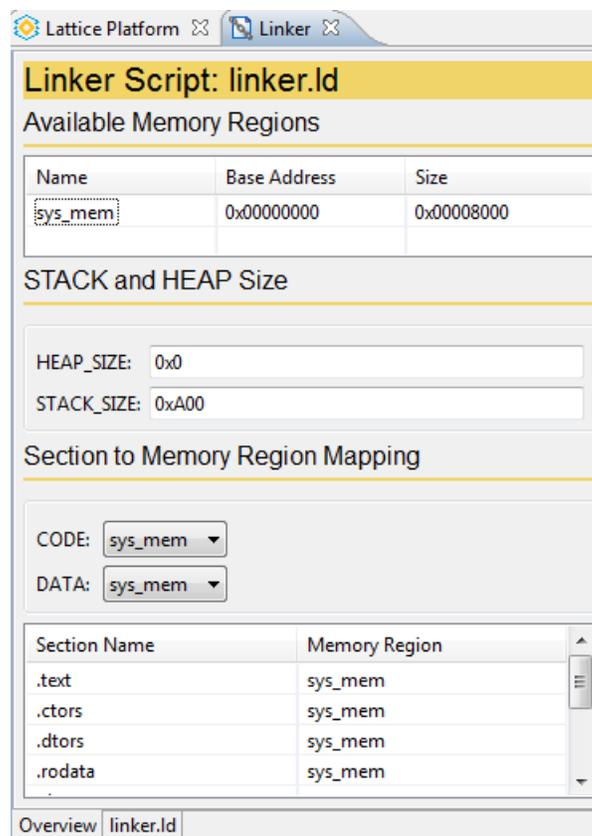

Figure 3.18. Linker Editor
- Linker Editor: An overview of the memory regions of linker script can be displayed. You can modify key linker parameters via graphical interface (Figure 3.18).